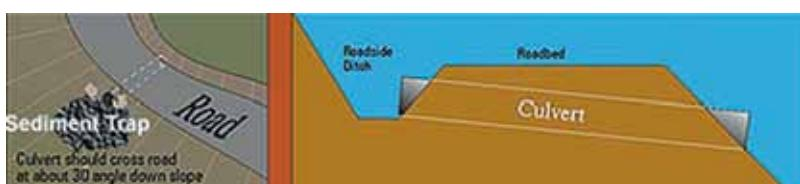

Fig. 5. Cross road drainage by pipe culvert.
- **Culverts** provide a smooth and dry road surface, however, they can require frequent maintenance (Fig. 5).